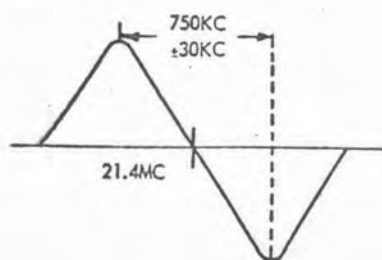

Figure 5-3
- e. Using the calibrated 21.4-mc marker as a reference, tune and adjust physical positions of L407 and L408 to achieve a response curve shape as shown in figure 5-3. The physical positioning will govern the 750-kc width. Tuning will govern the shape and height. The final curve should have equal amplitude above and below the horizontal line, and should be symmetrical.